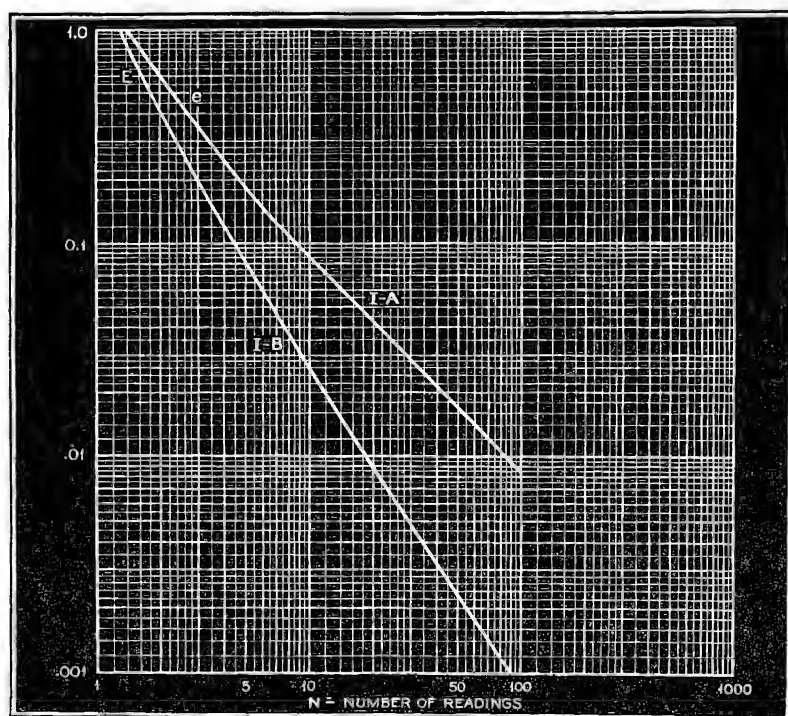

Figure 1
the function φ for both E and e is given as a function of n , as n varies by curves I-A and I-B, Figure 1. Both E and e may be determined readily by applying formula (1) where φ is determined from curve I.